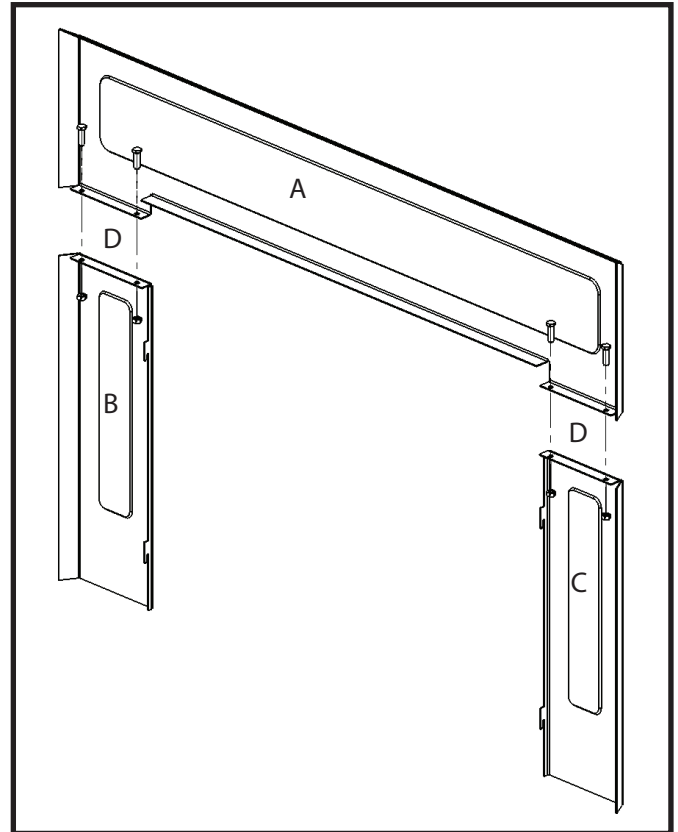

Figure 10: Surround assy.
2. Fasten the panels together with 1/4" x 1/2" bolts and nuts provided through holes at points "D" (Figure 10).